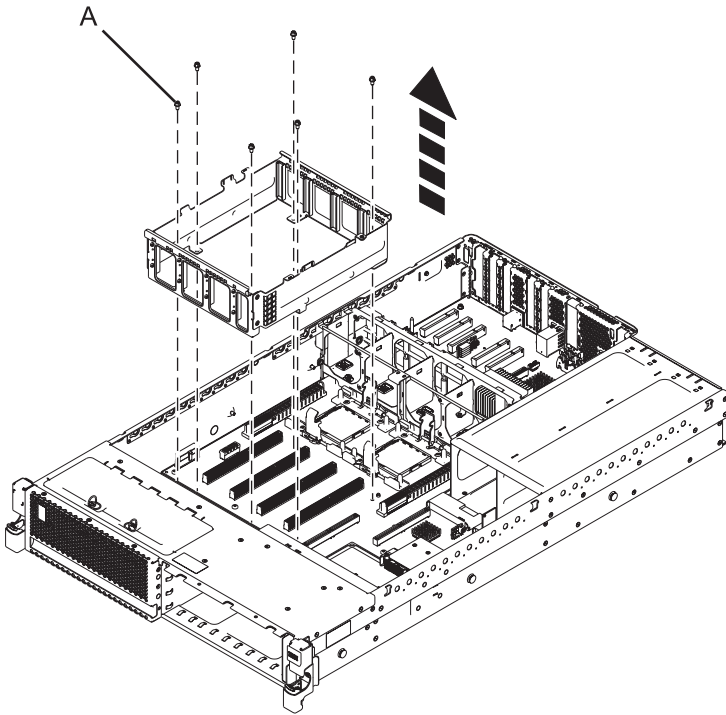

Figure 44. Removing the DIMM cage
- a. Remove the six screws that secure the DIMM cage (A). See Figure 44.